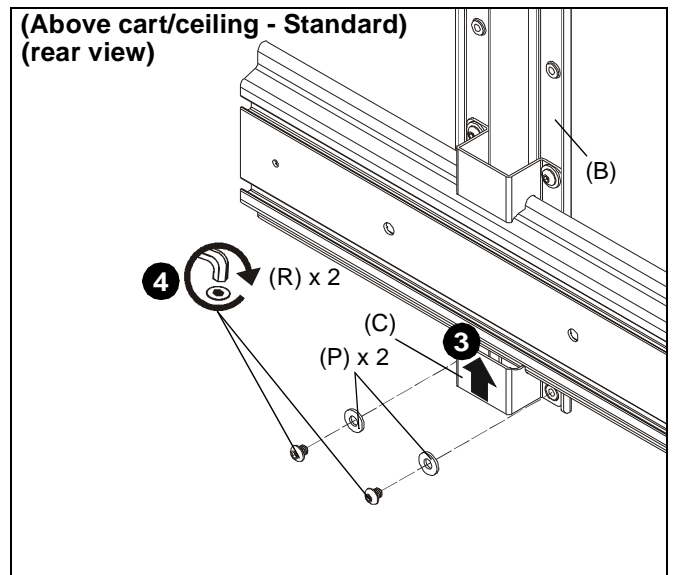

Figure 26
- Slide second support bracket (C) underneath cart/ceiling mount head assembly, lining up holes on support bracket (C) to holes on main bracket (B). (See Figure 26)
- Use two 1/4-20 x 1/4" button head cap screws (R) and two large washers (P) to secure support bracket (C) to main bracket (B). (See Figure 26)